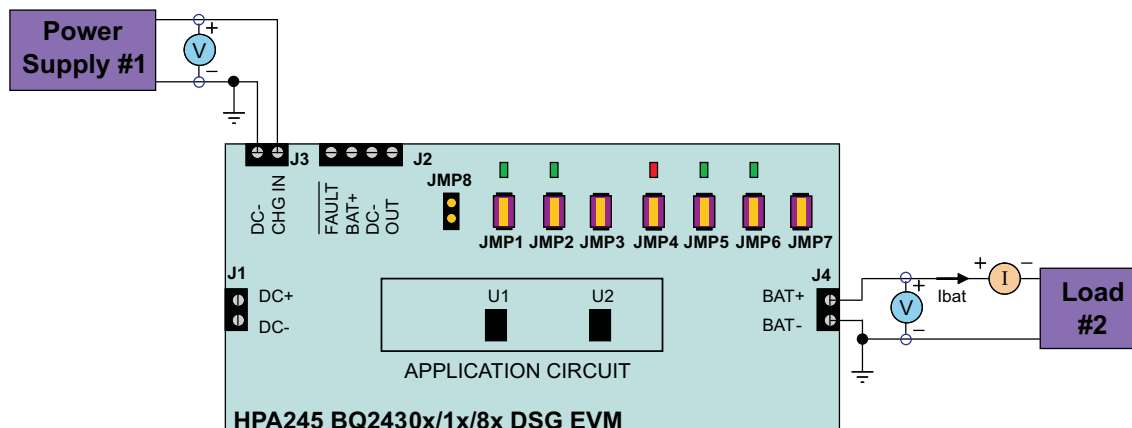

Figure 2. Charger IC Test Setup for HPA245 (bq2430x/1x/8x DSG EVM)
7. After the preceding steps, the test setup for HPA245 (bq2430x/1x/8x DSG EVM) is shown in Figure 2.